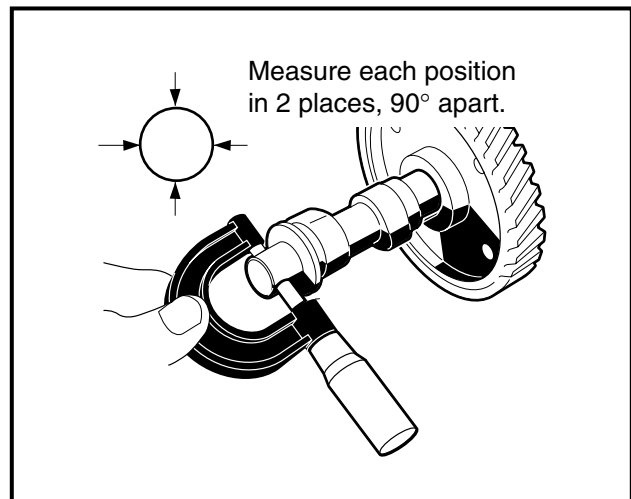
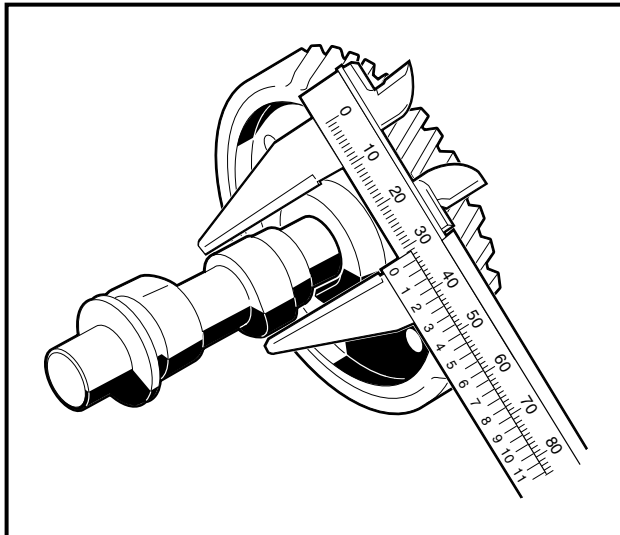

Figure 13-47 Measure O.D. of Camshaft Journals
Figure 13-48 Measure O.D. of Camlobes
5. Measure the camshaft journals and cam lobes with a micrometer at the points shown (**Figure 13-47, Page 13-25 and Figure 13-48, Page 13-26**).